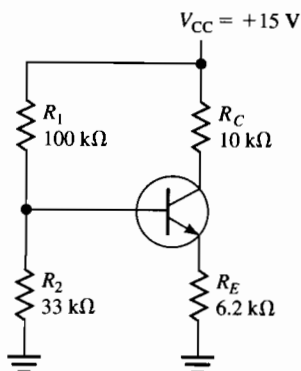

Figure C-18-1
12. For the circuit shown in Figure C-18-1, determine the dc voltage at the:
13. Assume that the symptoms of troubles listed below are present in the circuit in Figure C-18-1. What are the possible problems with the circuit?